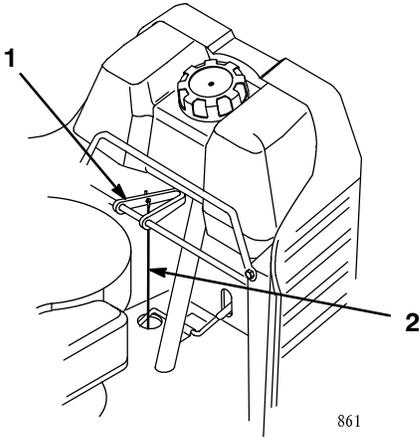

Figure 1
2. On 38 inch mower deck models only, remove the blade control cable (PTO) from the blade control lever (and bracket, if applicable) behind the dash (Fig. 1).
5. On 38 inch mower deck models only, guide the blade control cable (PTO) up through the frame opening along the side parking brake lever and hook the “Z” end into the blade control lever behind the dash (Fig. 1). See the Operator’s Manual for cable routing to the mower deck.